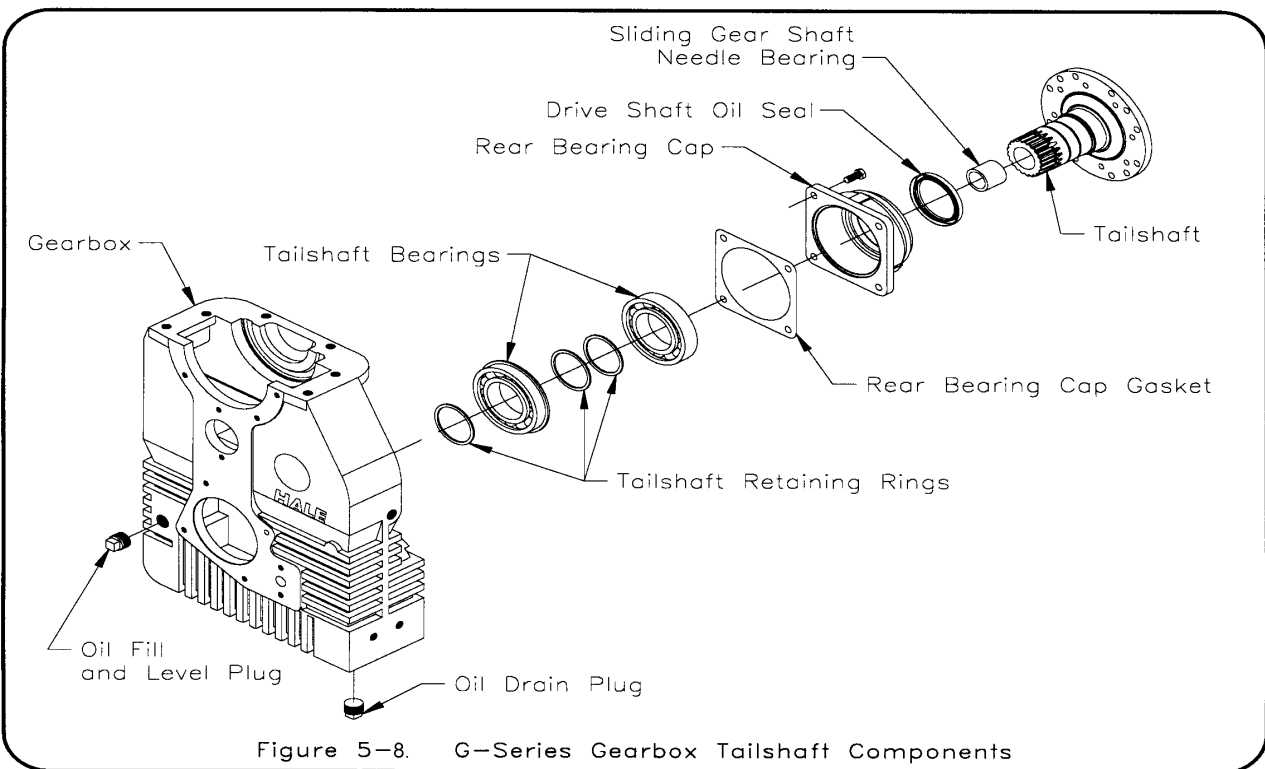

Figure 5-8. G-Series Gearbox Tailshaft Components
- j. Remove and disassemble the tail shaft assembly (refer to figure 5-8).